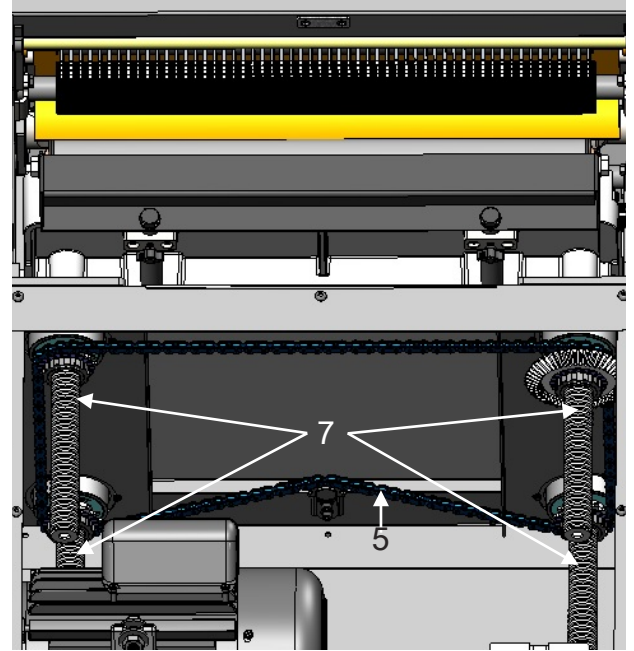

Figure 26: Lubrication
- Lubricate the four lead screws regularly. (Fig. 26).